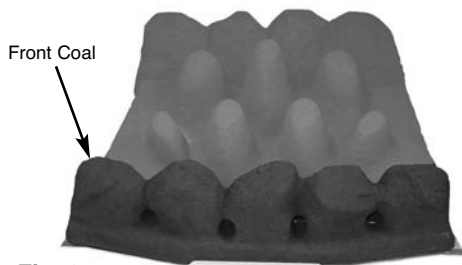

Fig. 21
3. Position the front coal on the front coal retainer, making sure that the back edge is pushed up against the front of the burner strip (Fig. 21).